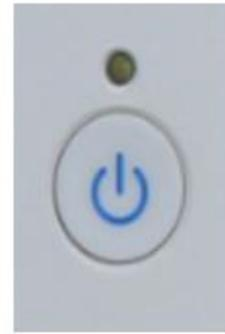

Figure 2.1 Power socket    Figure 2.2 Rear panel power switch    Figure 2.3 Front panel power switch
**Step 1. Connect the power cord:** Connect one end of the power cord delivered with the signal generator in the packing box or a three-core power cord conforming to the requirements to the power socket on the rear panel of the signal generator (Figure 2.1), and the other end to a conforming AC power supply.